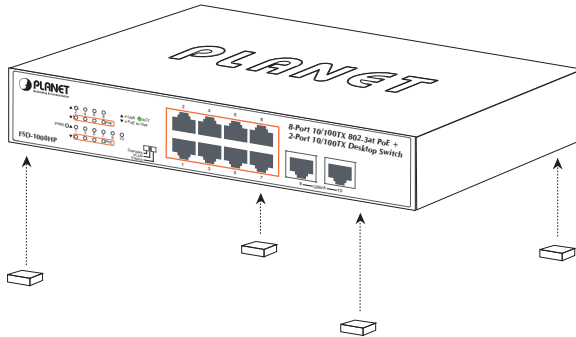

Figure 3-1: Attaching the Rubber Feet to the FSD-1008HP
Step 1: Attach the rubber feet to the recessed areas on the bottom of the FSD-1008HP, as shown in Figure 3-1.